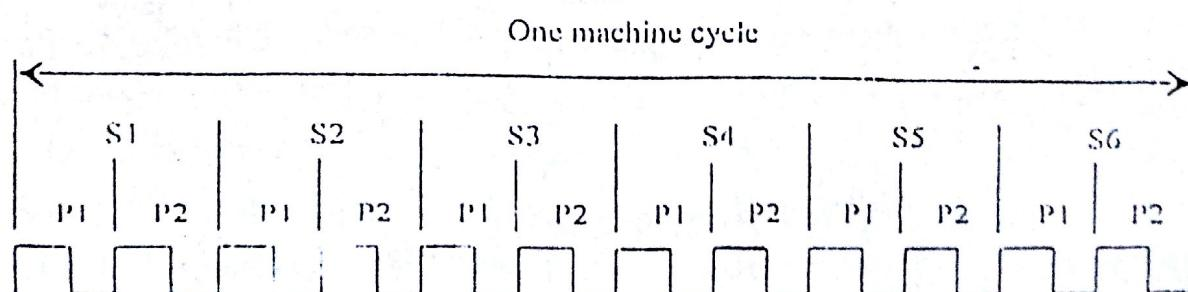

Figure 1.7 Relationship between oscillator clock cycles, states and machine cycle
With the oscillator as reference, the 8051 requires two clock cycles to perform a single discrete operation, which is either fetching an instruction, decoding, or executing it. This duration of two clock cycles is also called a state. Therefore, in order to fully process an instruction, the 8051 would generally require 6 such states, or 12 clock cycles since it would have to first fetch and decode the instruction before it goes to execute it. This duration of six states is also known as one 'machine cycle'. More complex instructions would take more than one machine cycle to be carried out. This number ranges from one to four machine cycles. The Figure 1.7 shows the relationship between clock cycles (P), states (S) and a machine cycle.